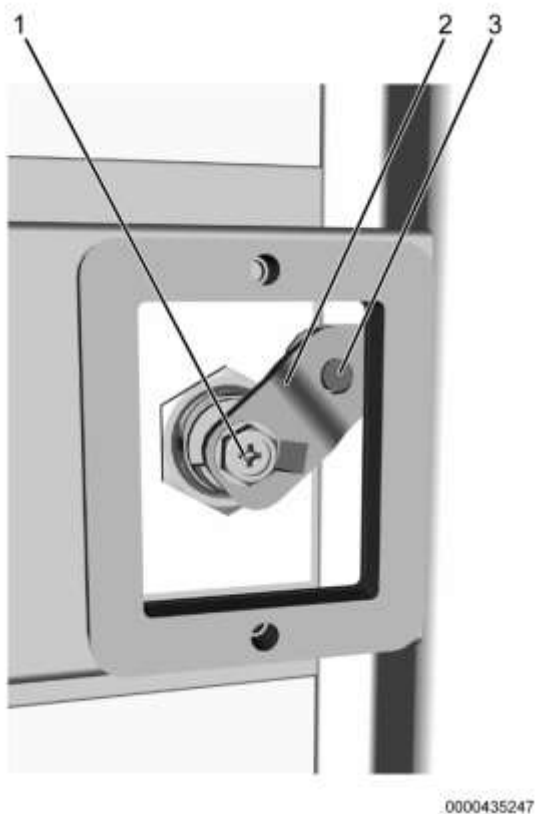

Figure 4. Cam Bracket and Latch Screw Position
12. Reposition cam bracket (Figure 4, Item 2) onto weld stud bracket (Figure 4, Item 3).